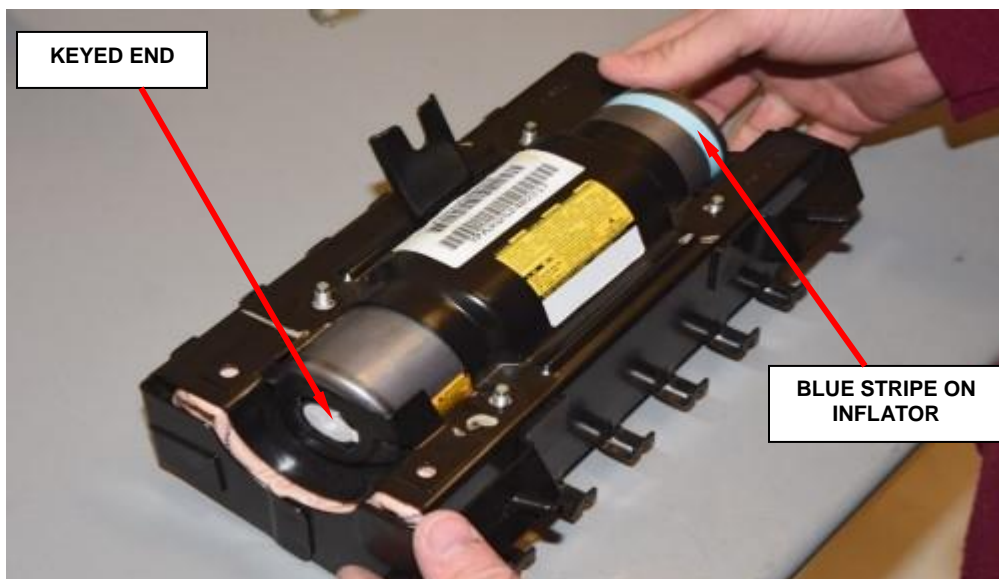

Figure 179 – Insert Inflator (Shown with Cushion Installed)
- i. Slide **new** inflator into housing. The keyed end is inserted first, therefore the blue stripe on the inflator will be located at the open end, as shown (Figure 179).